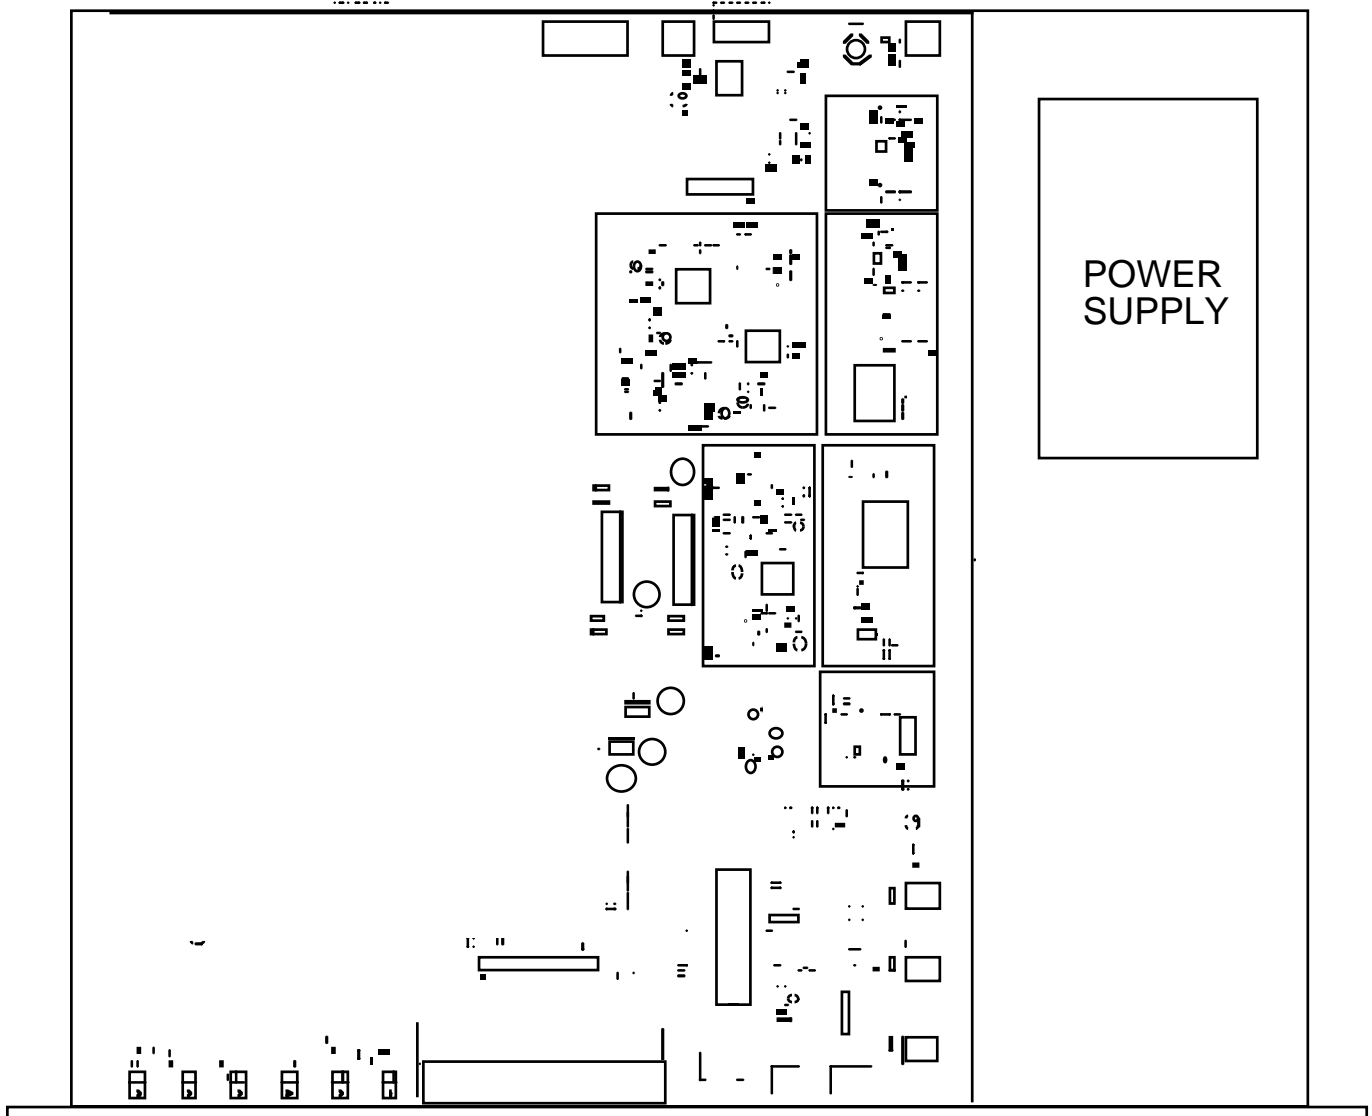

FIGURE 2.1 2083-0919 Mechanical Assembly
2.1 Mechanical - The 2083-0919 consists of one RF/Controller PCB housed in a 1 RU (1 3/4 inch high) by 16 inch deep chassis. A switching, ± 12 , +24, +5 VDC power supply provides power for the assemblies. The 2083-0919 can be secured to a rack using the 4 holes on the front panel. Figure 2.1 shows how the 2083-0919 is assembled.